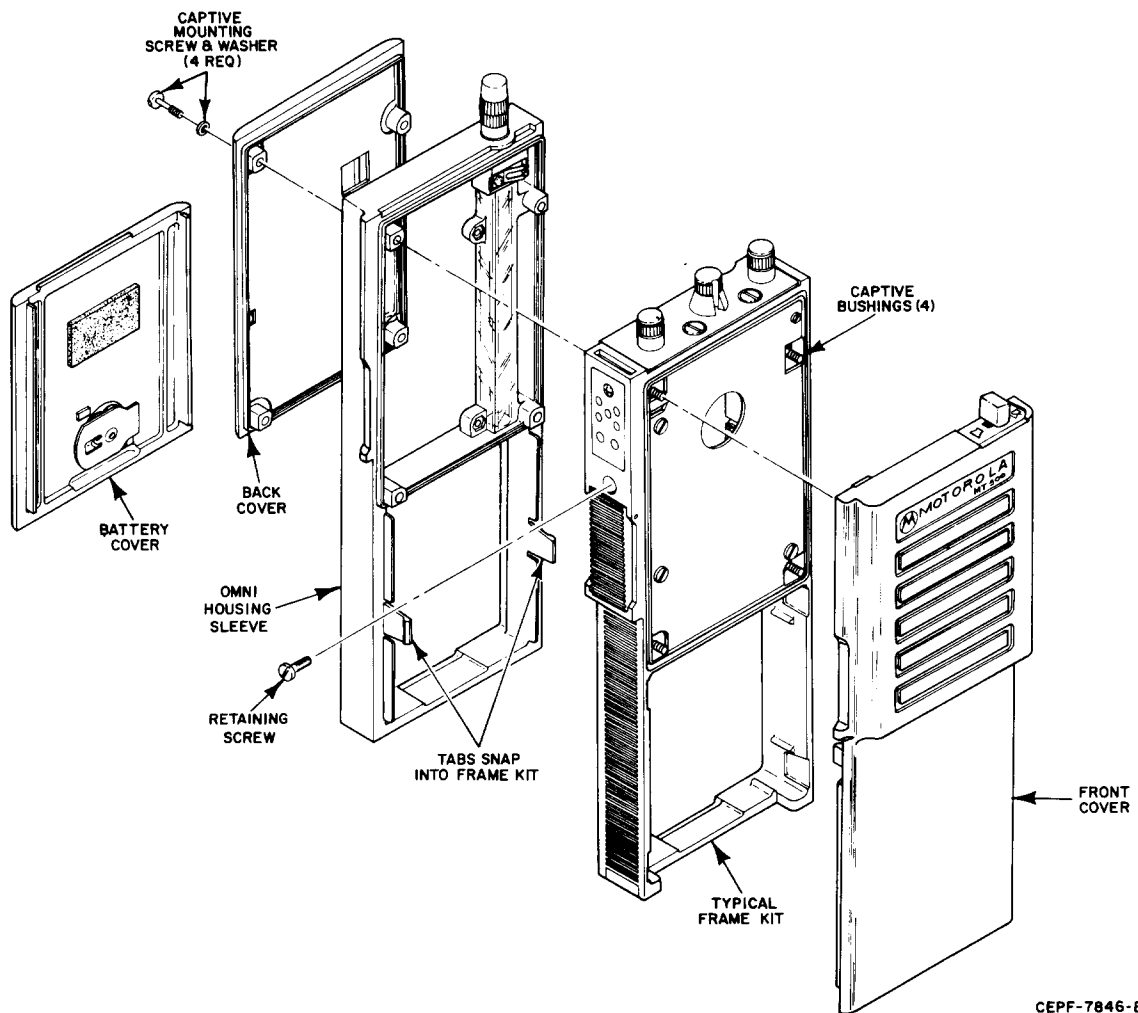

Figure 37. Typical MT500 Radio Disassembly Procedure
- a. Refer to Figure 37). Turn the slotted screw head on the battery cover one-quarter turn counterclockwise and remove the battery cover.
- a. Locate the retaining screw above the push-to-talk switch and remove it (refer to Figure 37).